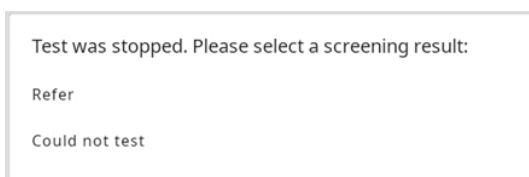

Figure 26
8. Press **STOP TEST** to stop the test, if testing is not possible anymore (**Could not test**) or you want to save an overall **Refer** result (Figure 26).